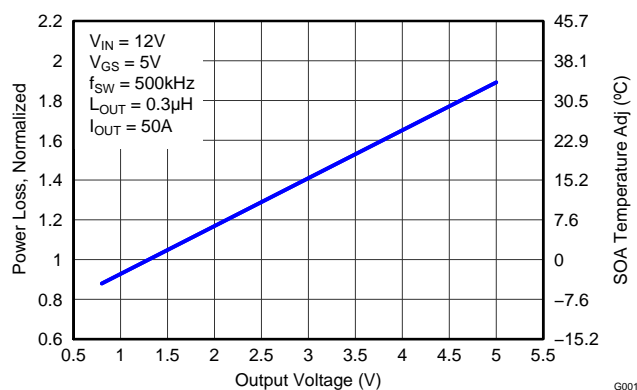

Figure 8. Normalized Power Loss vs. Output Voltage
- Normalized Power Loss for output voltage ≈ 0.90 (Figure 8)
- SOA adjustment for output voltage $\approx -2.5^{\circ}\text{C}$ (Figure 8)